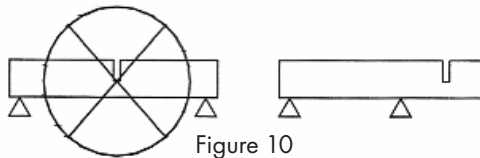

Figure 10
- Arrange the material to be cut as shown in Fig. 10.